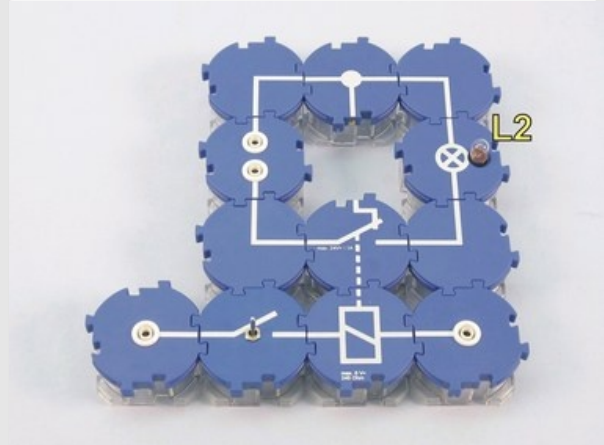
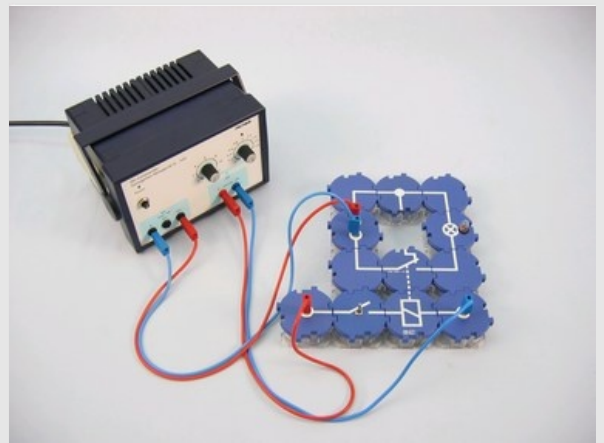

Fig. 4
Fig. 5
- Break the working circuit 1 by removing bulb L1 and set up the working circuit 2 with bulb L2 (fig. 4 and fig. 5).